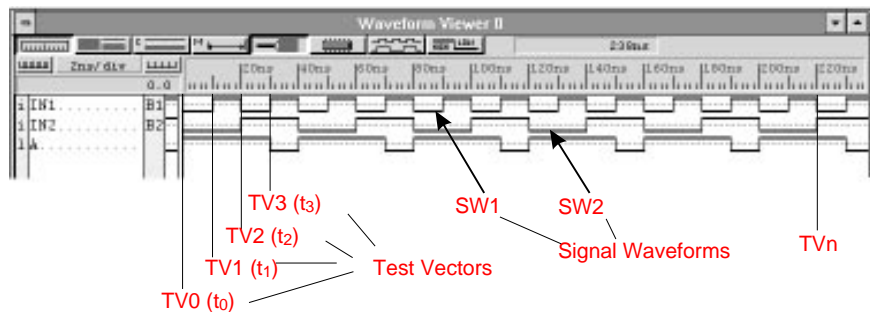
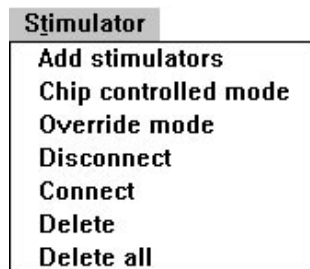
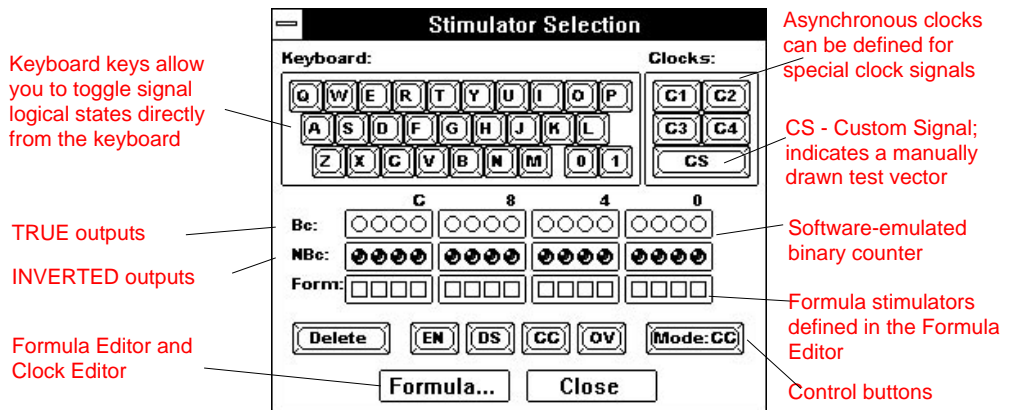
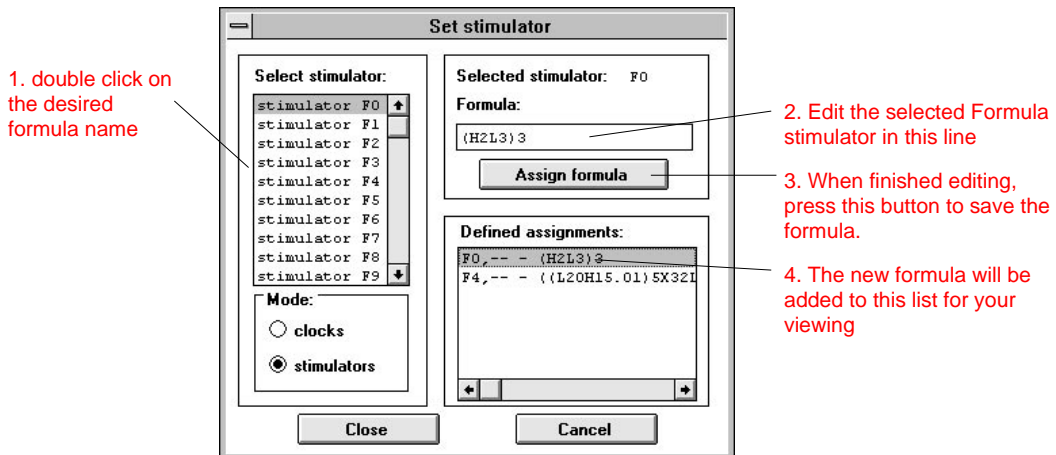

Figure 1-14. Difference between waveform & test vector.
Figure 1-15. Stimulator menu.
Figure 1-16. Stimulator Window.
Figure 1-20. Formula Editor Window.
One of the key issues in design analysis is the use of signal waveforms and test vectors in different design stages. Figure 1-14 shows the difference between these terms in graphical form.
NOTE: The test vectors are counted from the top-most or *IN1* signal line in Figure 1-14 (the left-most character in TV0) to the A signal at the bottom (right-most characters in TV0). Also, the input signals have 0 for Low and 1 for High. Output signals have L for Low and H for High. Since A is an output signal, the TV0 test vector assigns to it H instead of 1. Similarly TV1 assigns to it L instead of 0.
To differentiate between signal waveforms and test vectors, we will call the signal waveforms stimulators. To allow for a broad range of operations on the stimulators, a special **Stimulator** sub-menu (Figure 1-15) is provided within the Logic Simulator main menu:
- ☐ The **Add Stimulators** option displays a window (Figure 1-16) with ready-made stimulators. If you assign them to signal names on the ACTIVE-CAD screen, they will directly control these signal lines.
The ACTIVE-CAD stimulators are shown in Figure 1-16. They have pre-assigned names which you can assign to signal names displayed on the screen. To assign a stimulator to the selected signal line:
2. Click on the selected signal name, e.g. *IN1* shown in Figure 1-14.
3. After the selected signal name turns blue, click on the desired stimulator shown in Figure 1-16.
1. Click on a stimulator in Figure 1-16
2. Holding the left mouse button down, drag the cursor to the desired signal name, e.g. *IN2* in Figure 1-14.
The buttons in the **Stimulator Selection** window of Figure 1-16 are arranged into six (6) groups:
The keyboard keys override device outputs automatically by forcing the **Override mode** (OV button in Figure 1-16 or **Override Mode** in Figure 1-15). All signals operating in the **Override mode** are red. To allow chip outputs to take control of its outputs, select the **Chip Control mode** (CC button in Figure 1-16). For example, the keyboard key [F] automatically overrides the U1A-Q output signal until the **Chip control mode** (CC button) is activated.
You can assign the same keyboard key, e.g. [D] key, to as many signal lines as needed. Using the options in the **Stimulator** menu shown in Figure 1-15, you can enable (**Connect** option) and disable (**Disconnect** option) the assigned keyboard keys.
To activate the **Formula Editor**, click on the **Formula** button shown in Figure 1-16. In response, ACTIVE-CAD displays the window shown in Figure 1-20.
After the signal formula entry is completed, press the **Assign Formula** button shown in Figure 1-20. Note that the formula has been transferred into the **Defined Assignments** field. This formula can be instantly assigned to any signal line on the ACTIVE-CAD screen. Click on **Close** to exit the window.
To assign a formula to a selected signal waveform, click on the signal name shown in Figure 1-14. The selected signal name turns blue. Invoke the **Stimulator Selection** window shown in Figure 1-16 and click on the Formula- associated lamp in the **Formula** field. You can also first click on the formula lamp in **Stimulator Selection** window and drag the lamp over to the selected signal name on the Logic Simulator screen.
Note that as you edit signal waveforms, the modified segments change to green. Also, a **CS** (Custom Signal) symbol has been forced into the **Stimulator** column to indicate that the displayed waveforms are being forced on the device pins. If the **CS** symbol appears at the device output, you need to select the **Override** mode by clicking on the **OV** button shown in Figure 1-16. Otherwise, the device will control its own output signal, despite the presence of the **CS** symbol.
- ❑ If you apply a signal at the device output pin, it must be asserted with the **Overdrive Mode** (OV button in Figure 1-16); Otherwise it has no effect on the pins and signal lines in the node. For example, feeding a signal into pin U1A-3 has no effect on any pin in the node unless you set this signal into **Override Mode** (see **Keyboard Keys-Overriding device output pins**, in this Chapter)